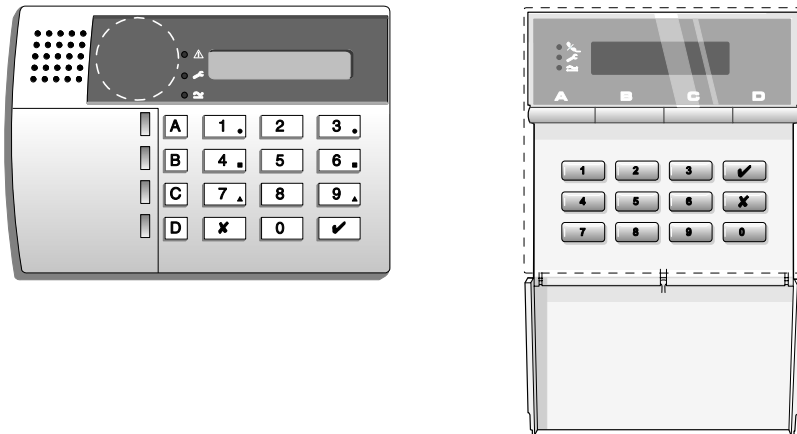

Figure 1. Sensitive Areas on 9930 and 9943 Keypads for Tags
When presenting a proximity tag to a 9930 keypad, whether for programming or for normal use, make sure that the tag is touching the front of the keypad to the left of the display as shown in Figure 1. The 9943 keypad has a proximity coil that makes the whole case sensitive to tags.
6. Present the proximity tag to the front of the keypad (see Figure 1).